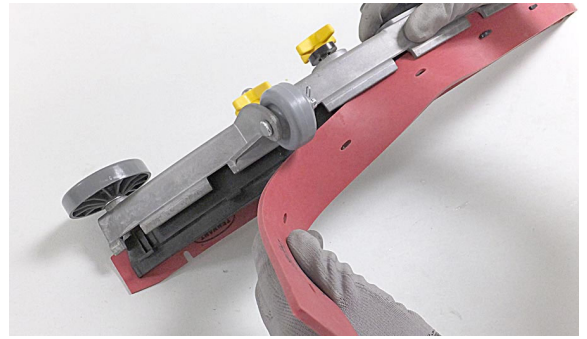

FIG. 93
- Remove worn blade(s) from the blade retainer (Figure 93).